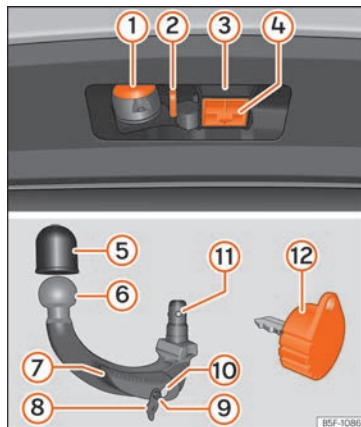

Fig. 251 Towing bracket device support / detachable ball joint / key.
Key to »» Fig. 251
- Remove the hook housing cap (4) » Fig. 251 downwards.